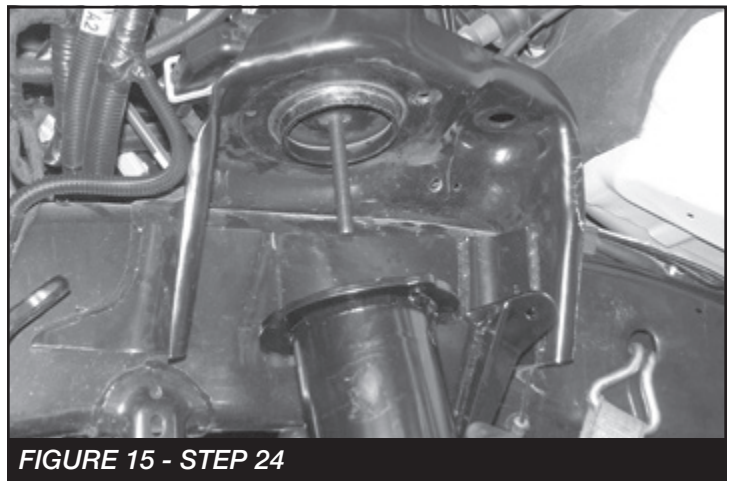

FIGURE 15 - STEP 24
24. Locate the FT4437BK coil spacer. Install the coil spacer into the top of the factory coil bucket passing the button head bolt through the center hole in the Fabtech coil spacer. Attach a flat washer and locking nut to the 1/2" button head bolt. Leave loose at this time. **SEE FIGURE 15**